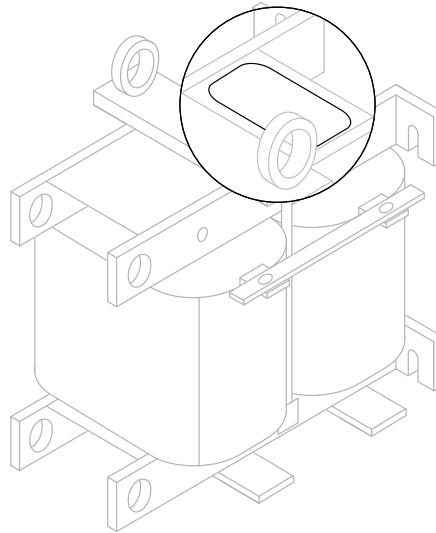

Figure 2.3 DC Link Choke
- Use the DC Link Choke Kits and SPC Model Compatibility on page 26 to confirm you have received the correct choke. Locate the model number on the DC Link Choke (DCL) nameplate as shown in Figure 2.3